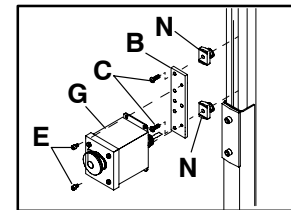

Figure 12
1. Install two Spring Nuts (N of Figure 12) into Leg slot.